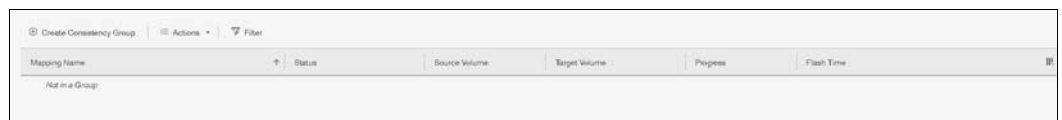

Figure 10-40 Consistency Group pane
1. From the main pane, click **Copy Services** → **Consistency Group**. The Consistency Groups pane opens, as shown in Figure 10-40.